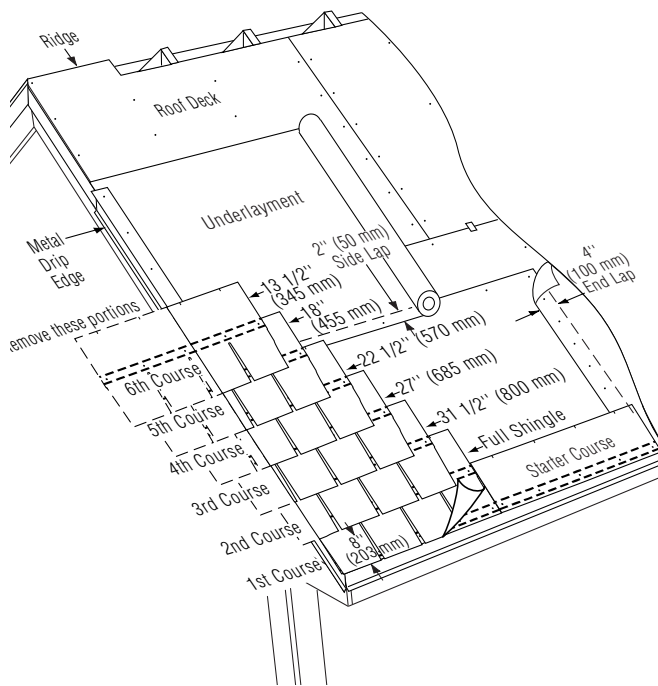

Figure 14-13: Applying the first six courses on a standard slope.
1. For the second course, cut  $4\frac{1}{2}$ " off the left end of a full shingle, and install this cut shingle over and above the first shingle of the first course. Leave the 8" tabs of the first-course shingle exposed to the weather by aligning the lowermost edge of the second course with the top of the flared cutouts (Figure 14-13).